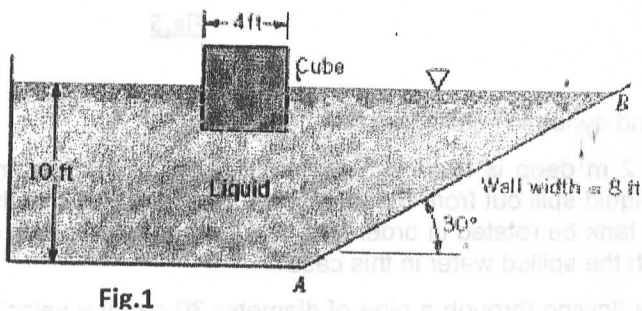

Fig.1
B) A cube, 4ft on a side, weighs 1600lb and floats half submerged in an open tank as shown in the fig.1. For a liquid depth of 10ft, determine a) the specific gravity of the liquid; b) the force of the liquid on the inclined section AB of the tank wall. The width of the wall is 8ft. Show the magnitude, direction, and location of the force on a sketch.